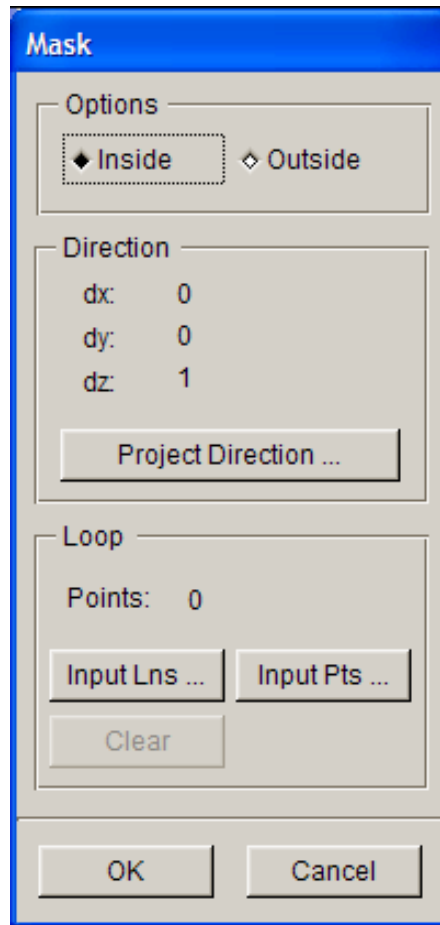

Figure 7.49 Internal pressure definition
13. The MASK dialog box illustrated in Figure 7.49 is displayed. Verify the **Inside** option is selected. In addition, the direction of projection is in positive **dz**.